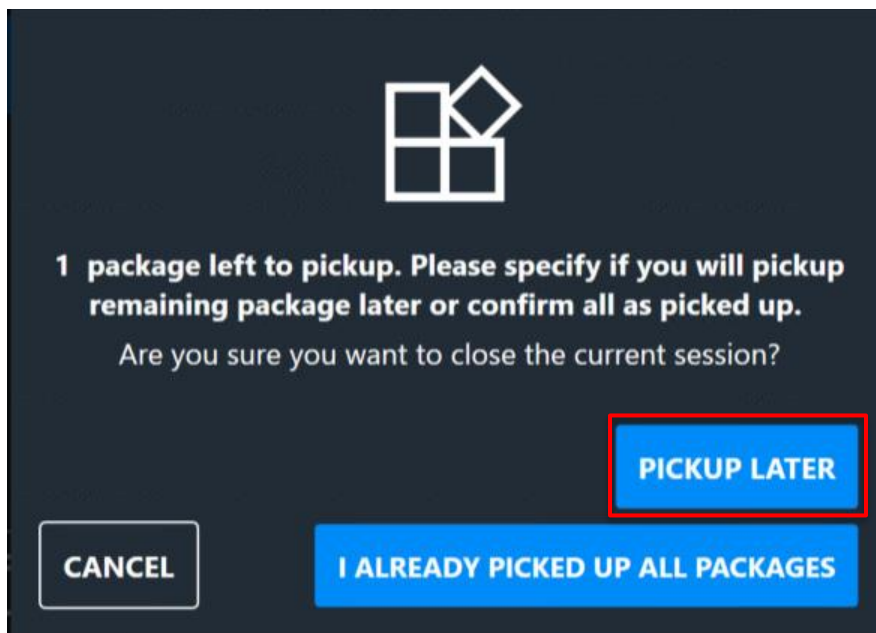

Figure 41: Pickup later
2. The kiosk will ask if you have picked up all of your packages or if you want to pick them up later. Tap **Pickup Later**, see Figure 41.